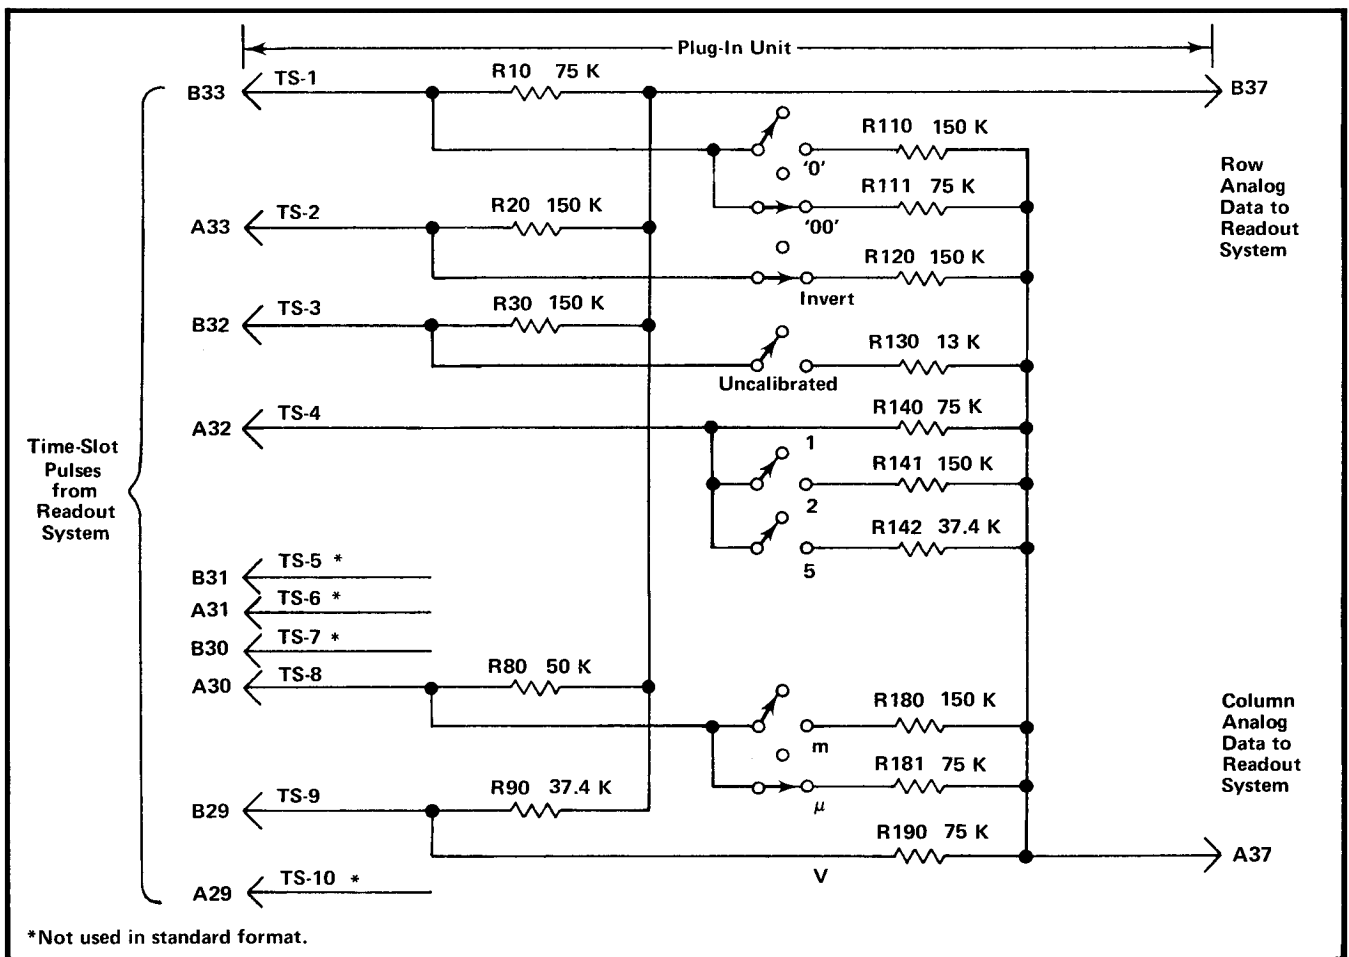

Fig. 2-40. Typical encoding scheme for voltage-sensing plug-in unit. Coding shown for deflection factor of 100 microvolts.
Data is conveyed from the plug-in units to the Readout System in the form of an analog (current level) code. The characters that can be selected by the encoded data are shown on the Character Selection Matrix (see Fig. 2-33). Each character requires two currents to define it; these currents are identified as the column current and the row current, corresponding to the column and row of the matrix. The column and row data is encoded by programming the plug-in units. Figure 2-40 shows a typical encoding scheme using resistors for a voltage-sensing amplifier plug-in unit. Notice that the 10 time-slot (TS) pulses produced by the Time-Slot Counter stage are connected to the plug-in unit. However, time-slots 5, 6, 7, and 10 are not used by the plug-in unit to encode data when using the Standard Readout Format (see Table 2-2 for Standard Readout Format). The amplitude of the time-slot pulses is exactly -15 volts as determined by the Timer stage. Therefore, the resultant output current from the plug-in units can be accurately controlled by the programming resistors in the plug-in units.
For example, in Fig. 2-40 resistors R10 through R90 control the row analog data, which is connected back to the Readout System. Figure 2-41A shows an idealized output current waveform of row analog data, which results from the time-slot pulses. Each of the row levels of current shown in these waveforms corresponds to 100 microamperes of current. The row numbers on the left-hand side of the waveform correspond to the rows in the Character Selection Matrix (see Fig. 2-33). The row analog data is connected back to the Readout System via terminal B37 of the plug-in interface.
The Column analog data is defined by resistors R110 through R190. The program resistors are connected to the time-slot lines by switch closures to encode the desired data. The data as encoded by the circuit shown in Fig. 2-40
The column analog data encoded by most plug-in units can be modified by attenuator probes connected to the input connectors of amplifier plug-in units. A special coding ring around the input connector of the plug-in unit senses the attenuation ratio of the probe (with readout-coded probes only). The probe contains a circuit which provides additional column current. For example, if a 10X attenuator probe is connected to a plug-in unit encoded for 100 microvolts as shown in Fig. 2-40, an additional unit of current is added to the column analog data during time-slot 1. Since two units of current were encoded by R111 (see Fig. 2-40), this additional current results in a total of three units of column analog current during this time-slot. Referring to the Character Selection Matrix, three units of column current, along with the two units of row current encoded by R10, indicates that the prefix should be shifted one column to the left. Since this instruction occurs in the same time-slot that previously indicated that two zeros should be added to the display and only one instruction can be encoded during a time-slot, the zeros do not appear in the display. The CRT readout will now be changed to 1 mV (readout program produced by plug-in same as for previous example).
Finally, memory C is interrogated during time-slot 8 to obtain information on whether the prefix should be changed, or left at the value that was encoded. If data has been encoded that calls for a shift in prefix, a negative-going output level is produced at pin 7. This negative level subtracts one unit of column current from the data at the input to the Column Decoder. Notice on the Character Selection Matrix of Fig. 2-33 that when row 4 is programmed, a reduction of one column results in a one-column shift of the prefix. For example, with the 100  $\mu$ V program shown in Fig. 2-40, if the data received from the plug-in called for a shift in prefix, the CRT readout would be changed to 1 mV (zeros deleted by program; see Encoding the Data).